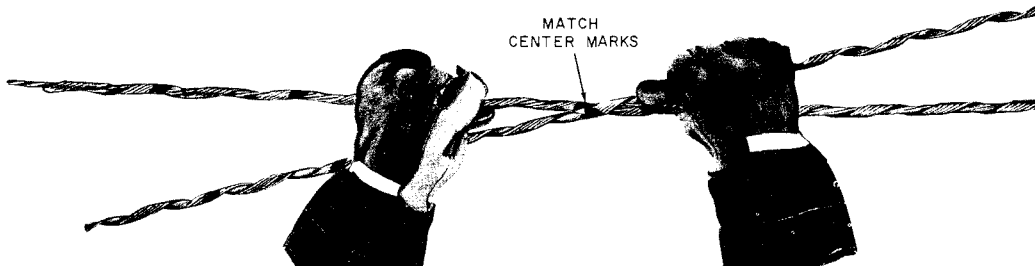

Fig. 6—Start of Second Subset
(4) To install the second subset, match the center mark as shown in Fig. 6 and apply completely as described in (2) and (3) starting with the larger size strand and finishing with the smaller size strand in the splice. Take precaution to ensure that the individual wires of the butt ends of both sizes of strand are contained within the subsets. Splitting the ends facilitates the completion of application. Fig. 7 shows the application of the second subset.
(5) Make sure that ends of individual wires of the B Strand Reducer are in lay when completing the splice.